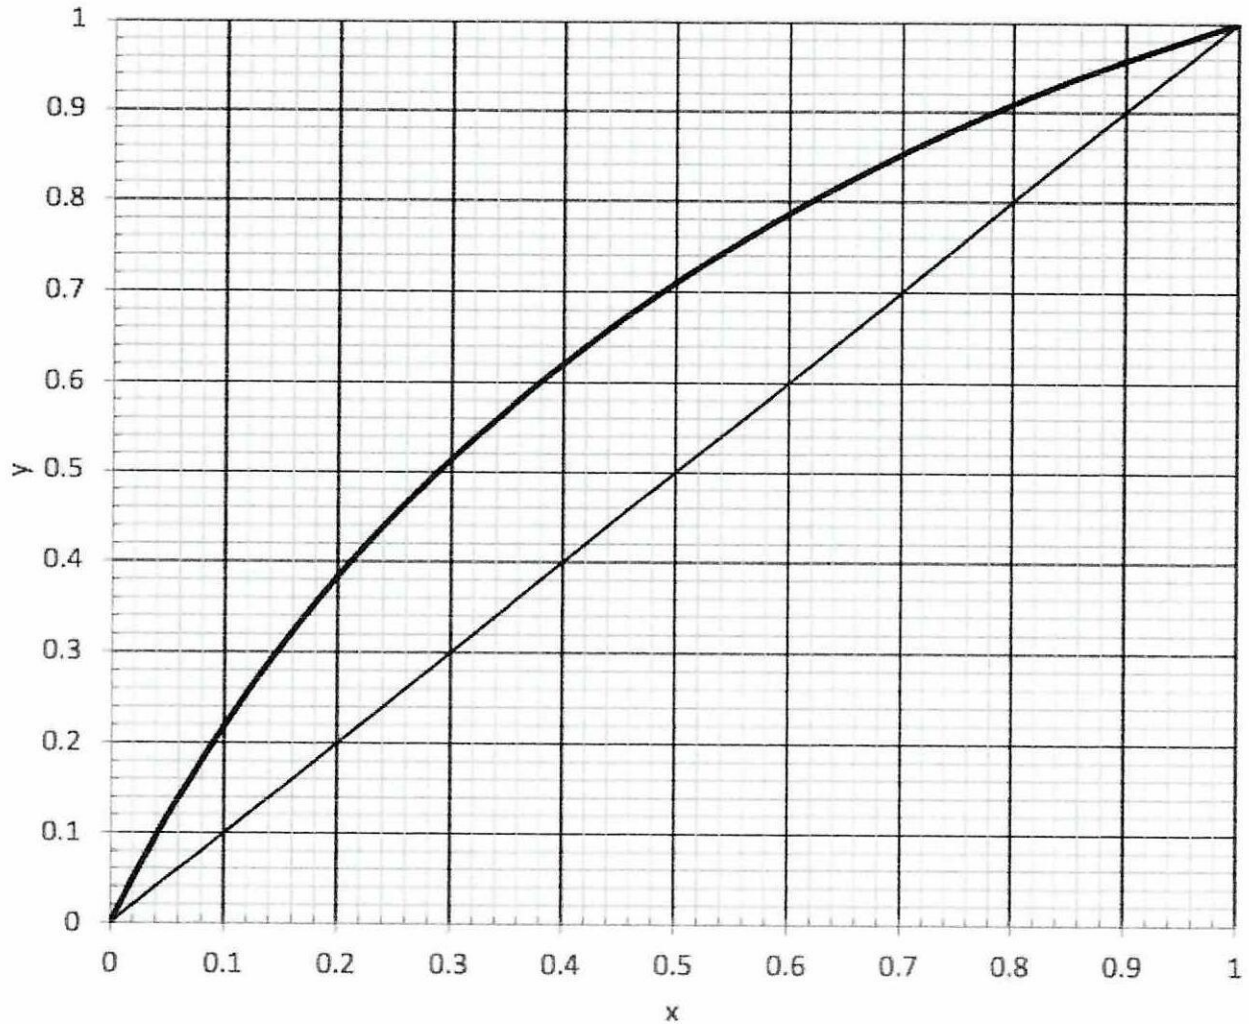

Figure Q1 (b)
- (b) A Benzene-Toluene mixture containing 48 mol% Benzene is to be separated in a distillation column. The distillation column equipped with a reboiler and partial condenser is used to separate the feed flow into 80 mol% Benzene and 10 mol% Toluene. Based on McCabe Thiele method and **Figure Q1(b)**.